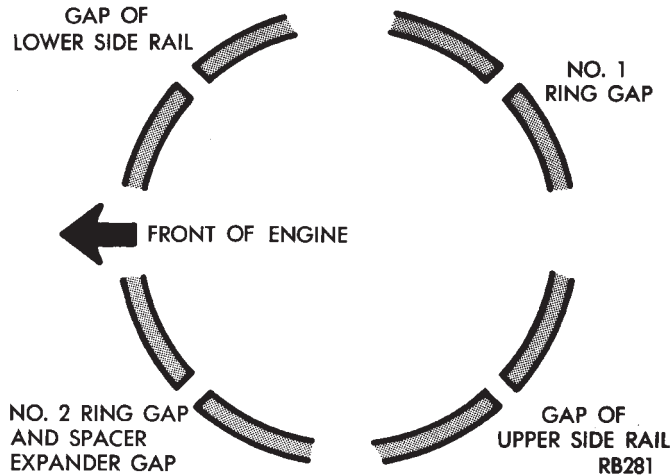

Fig. 13 Piston Ring End Gap Position
(5) Position piston ring end gaps as shown in (Fig. 13).
(6) Position oil ring expander gap at least 45° from the side rail gaps but **not** on the piston pin center or on the thrust direction. Staggering ring gap is important for oil control.